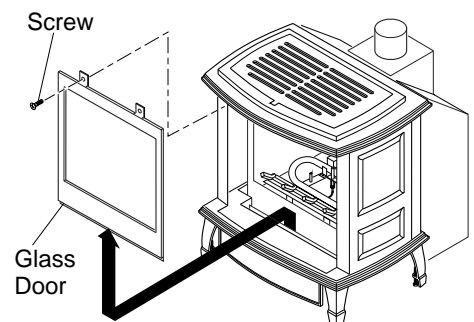

Figure 39 - Removing Glass Door from Firebox Insert
2. Remove the screws from the 2 tabs at the top of the glass door while holding door securely keeping it from falling forward (see Figure 39).
3. Grasp door by both sides and ease it upward off of the lower bracket (see Figure 39).